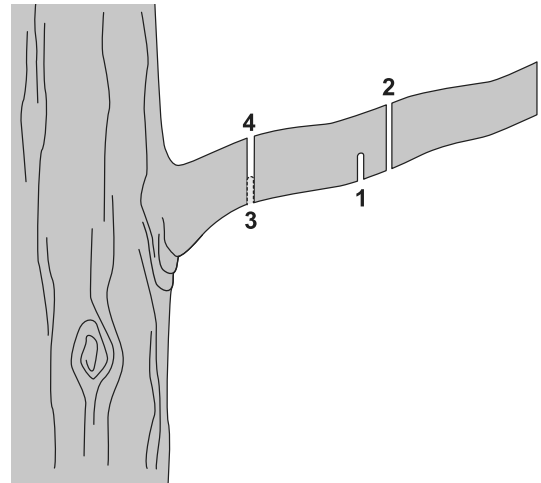

Figure 15
- a. First cut into the branch from below, outside of the location where you intend to cut off the branch. The cut should go one third to halfway through the branch. See Cut 1 on Figure 15, right.
- b. Cut into the branch from the top, making sure it's outside from where the branch is to be sawn. See Cut 2 on Figure 15, right.
- c. To keep stump and branch from splintering, do a stub undercut below branch. See Cut 3, on Figure 15, right.
- d. Cut off the stump with one clean cut from top to bottom. If desired, seal the cut with a suitable compound. See Cut 4 on Figure 15, right.